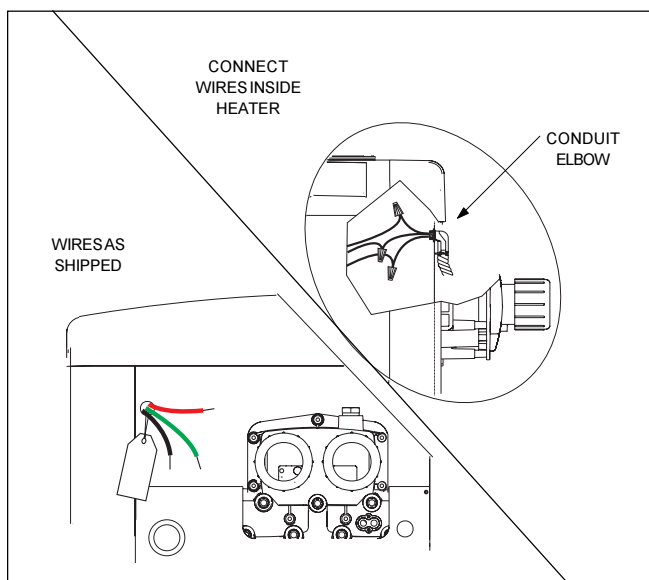

Figure 18. Field Wiring Connections
3. Connect the wires from the power source to the leads on the right side of the heater in the space behind the raceway. You may need to remove the control to gain access to the leads (See Fig. 18).